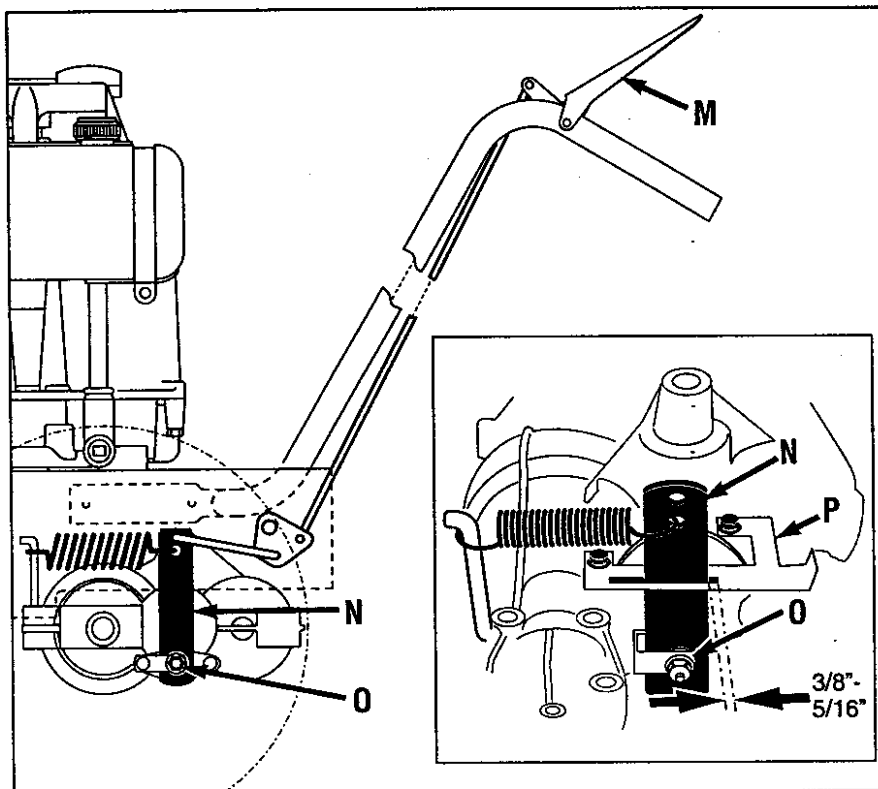

Figure 5-13: Wheel brake adjustment.
2. Disengage (release) the Operator Presence Control (M, Figure 5-13).
3. Slowly adjust at nut (O), if necessary, until the distance between the back of brake arm (N) and bracket (P) is $3/8"$ - $5/16"$. Use small adjustments ($1/4$ turn maximum). NOTE: It may be necessary to relieve spring tension when decreasing distance. To do so, have an assistant engage the Operator Presence Control while you adjust the nut.
3. Hold down Operator Presence Control (M, Figure 5-13) and push unit forward and backward. Unit should move freely. If not, continue with Step 4.